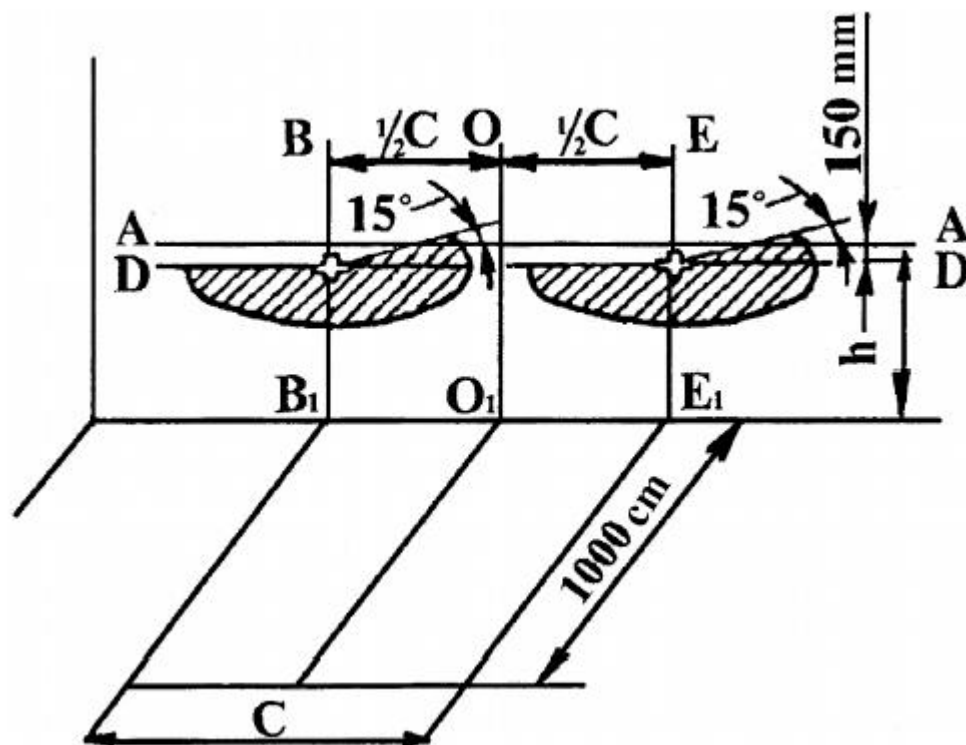

Fig. 16. Marking up the screen and adjusting the front headlights
- Mark out the screen as shown in Fig. 16. When doing this, mark the line of the centres of the headlights A-A on the screen at the distance equal to the height of location of the centres of the headlights above the ground level, and the lines B-B₁ and E-E₁ – at the distance C (the distance between the centres of the headlights in the horizontal plane). The distance should be measured immediately on the tractor. The air pressure in the tyres shall correspond to the recommended norms;